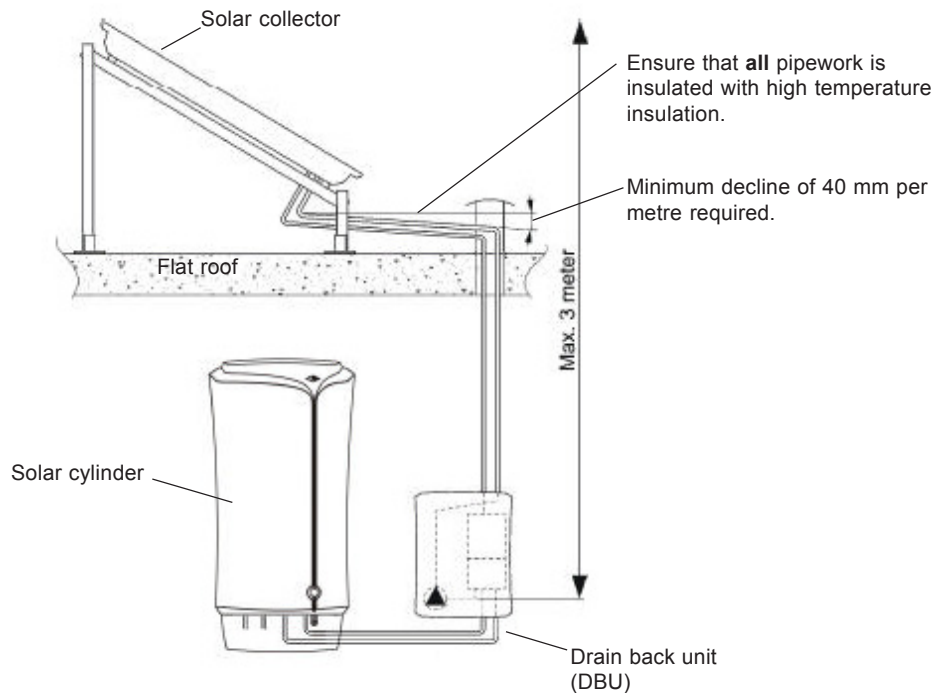

Fig. 8
The DBU must be located within 3 metres of the top of the Solar collector, see Fig. 8. The pipework from the collector to the DBU **must always** fall by a minimum of 40 mm per metre and **must be** insulated with high temperature pipe insulation.
- b. **Positioning of a landscape collector onto a flat roof:** Using the Alpha Flat Roof Kit (Part No. 6.4000800), the collector is mounted on the framework supplied. The collector is fixed at an inclination of 30° and ballast is used to secure the frame in the required position. Refer to Fig. 8 for details of location of the drain back unit in relation to the collector. Full details of this type of installation are provided in the instructions supplied with the kit.